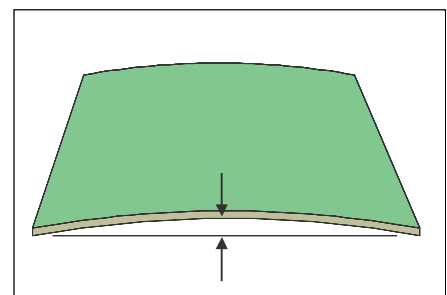

Figure 1: Check edge deflection for maximum warp.
1. Check the deflection to determine if rework is needed. See Figure 1.